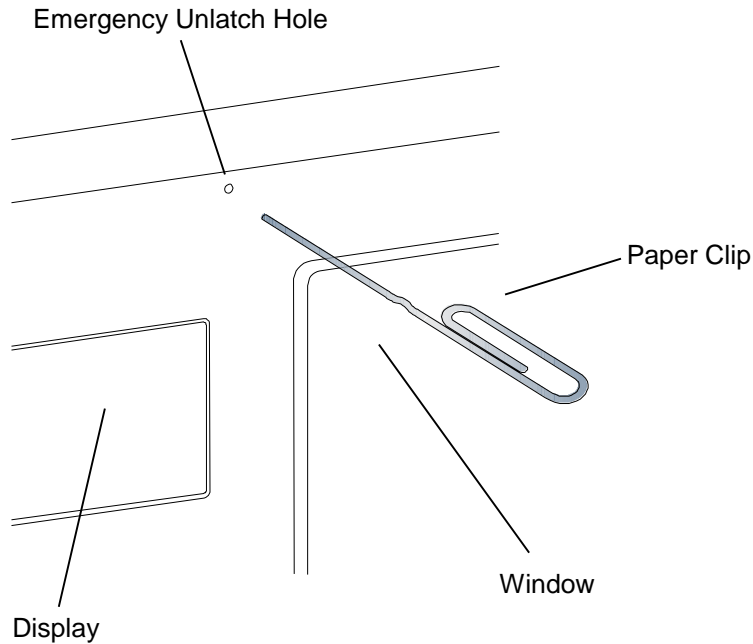

Figure 7-1 View of the Emergency Unlatch Hole in the Front Panel/Door
2. Insert the straightened end of a paper clip into the Emergency Unlatch Hole in the Front Panel/Door as shown in Figure 7-1. Push on the latch tab to unlatch it. The Front Panel/Door will pop open slightly when unlatched.